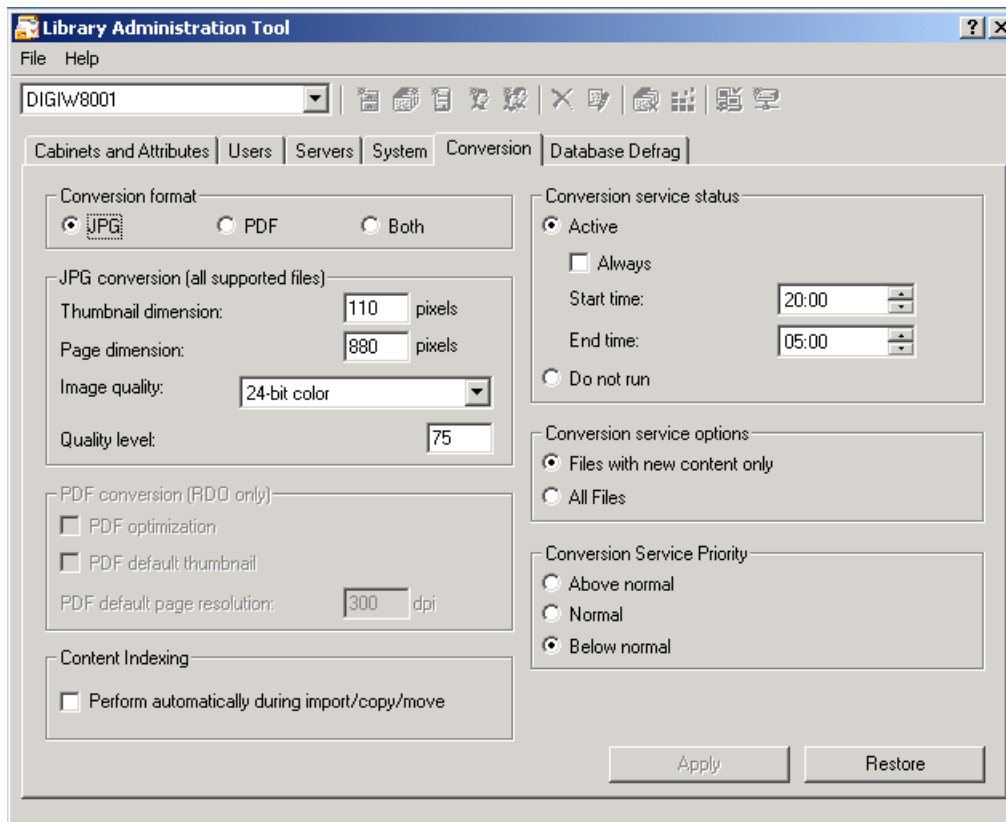

Figure 6-8. Conversion tab
4. Select the [Conversion] tab. See Figure 6-8.